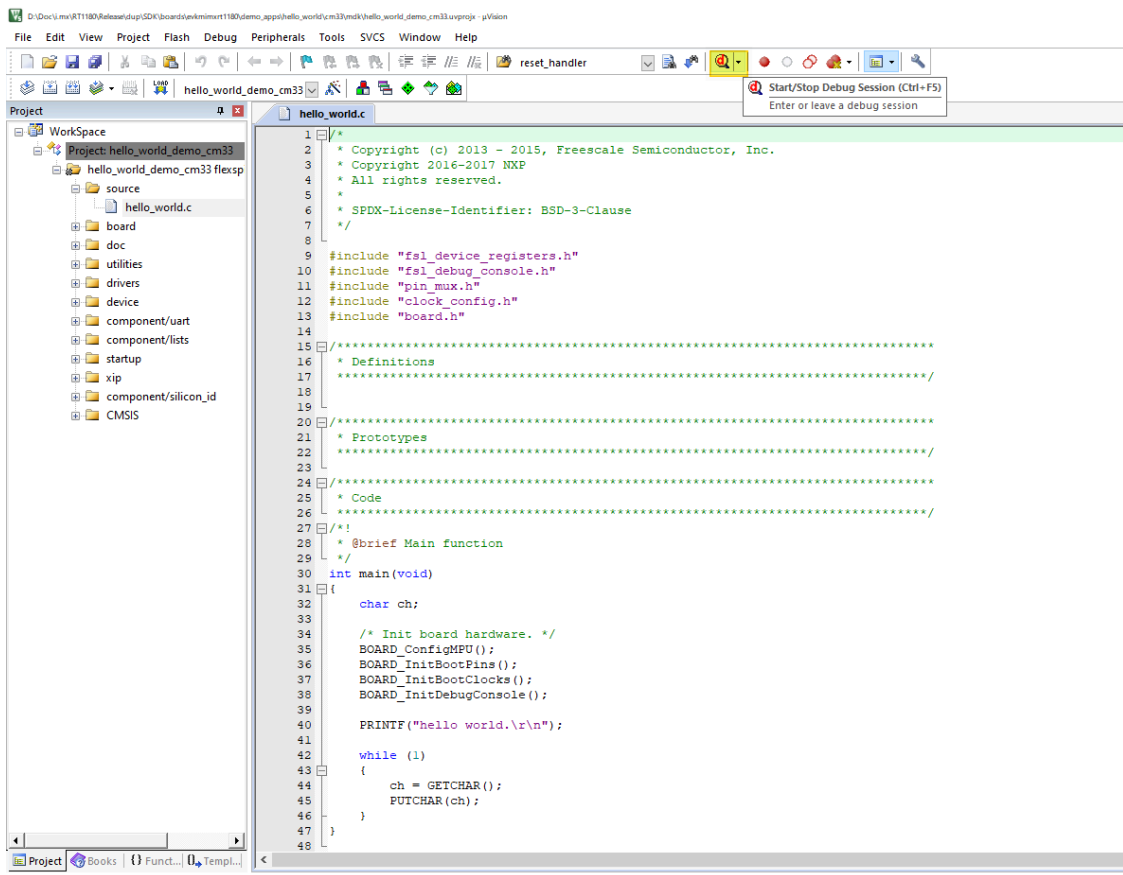

Figure 37. Stop at main () when run debugging
3. To debug the application, click the **Start/Stop Debug Session** button or **Ctrl + F5**, highlighted in Figure 37.